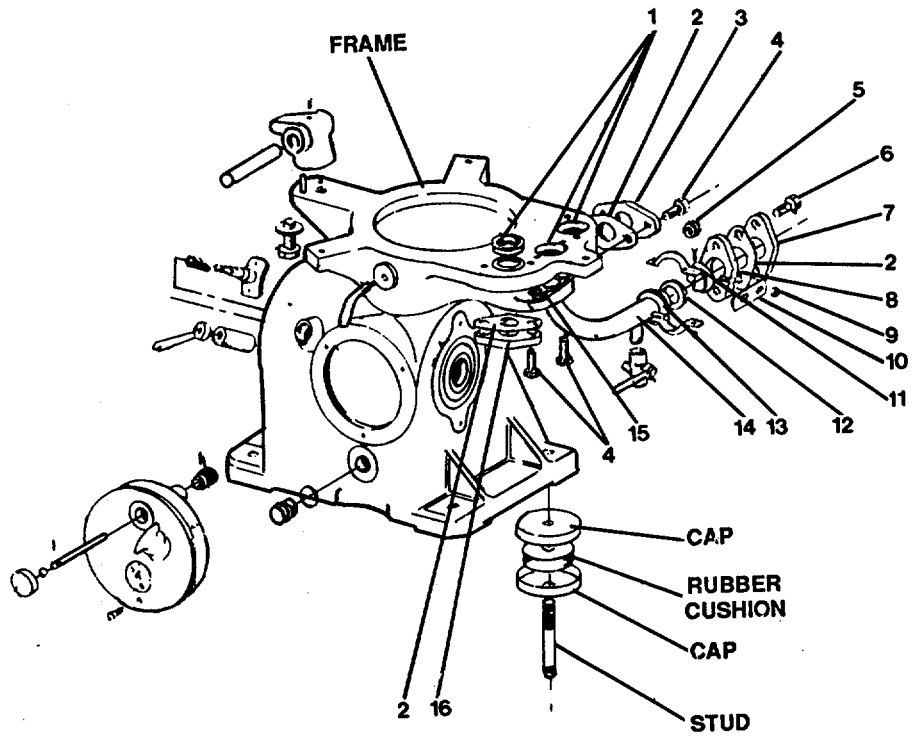

FIGURE 4-5. Purifier Frame Piping.
**DISASSEMBLY (Figure 4-5)**
- (1) Remove three gaskets (1) from frame top.
**ASSEMBLY (Figure 4-5)**